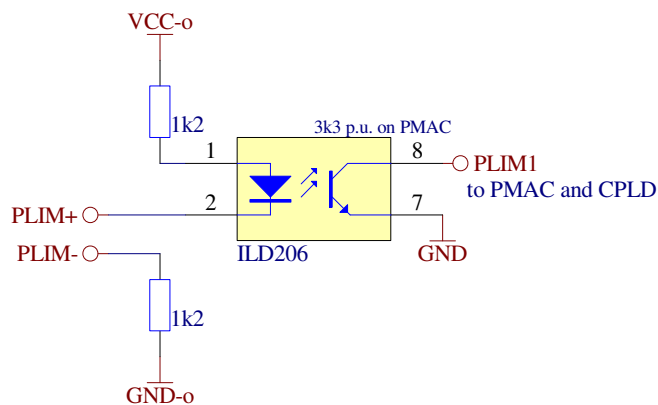

Figure 7: PLIM input (also valid for HOME, MLIM and USER inputs)
- HOME+/-, PLIM+/-, MLIM, USER+/-: these signals are routed to PMAC (interface board applies signal adaptation and optical isolation). Purpose of these signals is to provide limit (PLIM, MLIM) and home switches (HOME) and additional general purpose input (USER). PMAC's motion control programs can provide response to them. CPLD also reads these inputs and can provide any actions regarding the states of these inputs. For a septum none of these signals are used, but nevertheless, inside mEB they are connected to potentiometer feedback connector (for future use and testing purposes; HOME, PLIM, MLIM). See 2.2.4 for connection details. To prevent ground-floating issues this inputs should be controlled by a floating closed / open switch (e.g. mechanical switch or output of an opto-coupler). See Figure 7 for explanation.